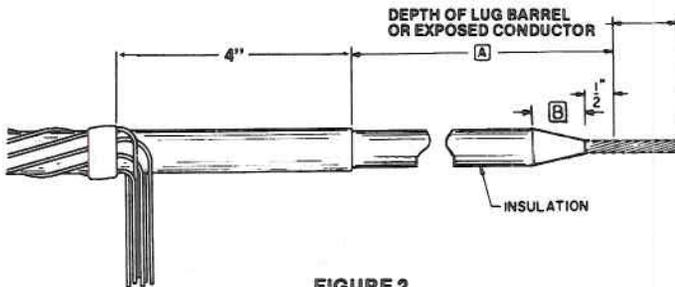

FIGURE 2
3. Prepare cable according to Figure 2 and Table I.